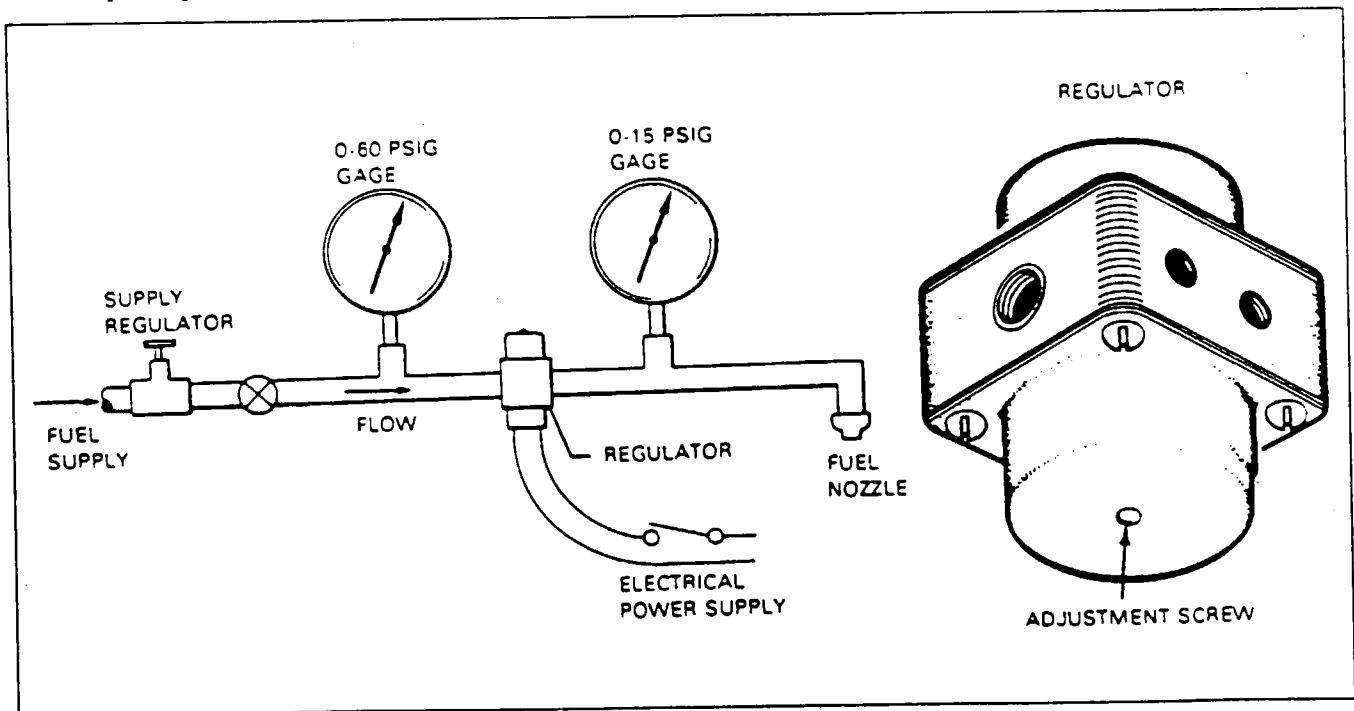

Figure 21-18. Test Setup for Fuel Regulator and Shutoff Valve
1. Install the regulator in a test stand similar to that shown in Figure 21-18.